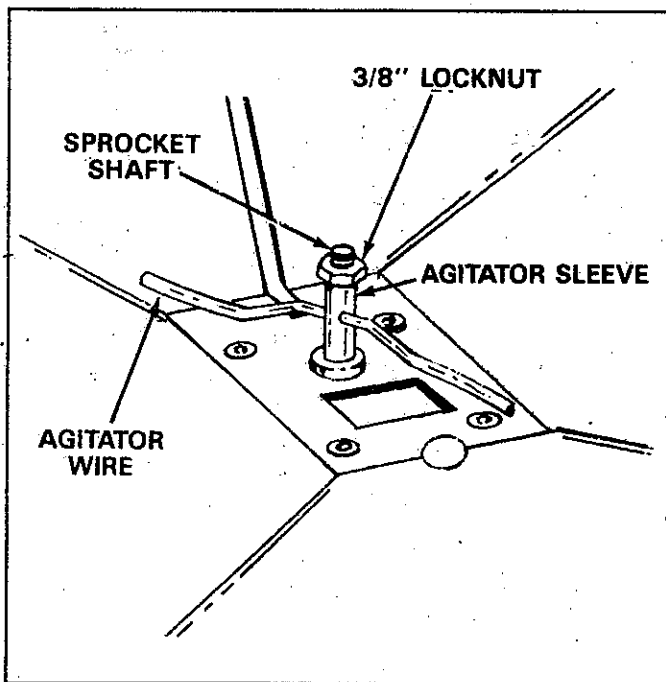

FIGURE 17
4. If agitator wire becomes damaged or worn it can be replaced. Loosen 3/8" lock nut on the top of sprocket shaft until agitator wire is free. Remove and replace with new agitator wire. Position agitator wire so that sprocket shaft turns freely and tighten 3/8" lock nut on top of sprocket shaft. See figure 17.